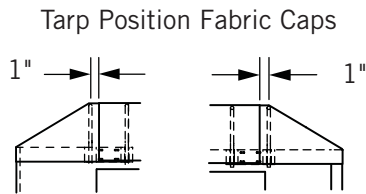

Figure 66
1) **Figures 66 & 67.** Roll the tarp onto the roll pipe and place on the trailer. Position the tarp front to back accordingly.